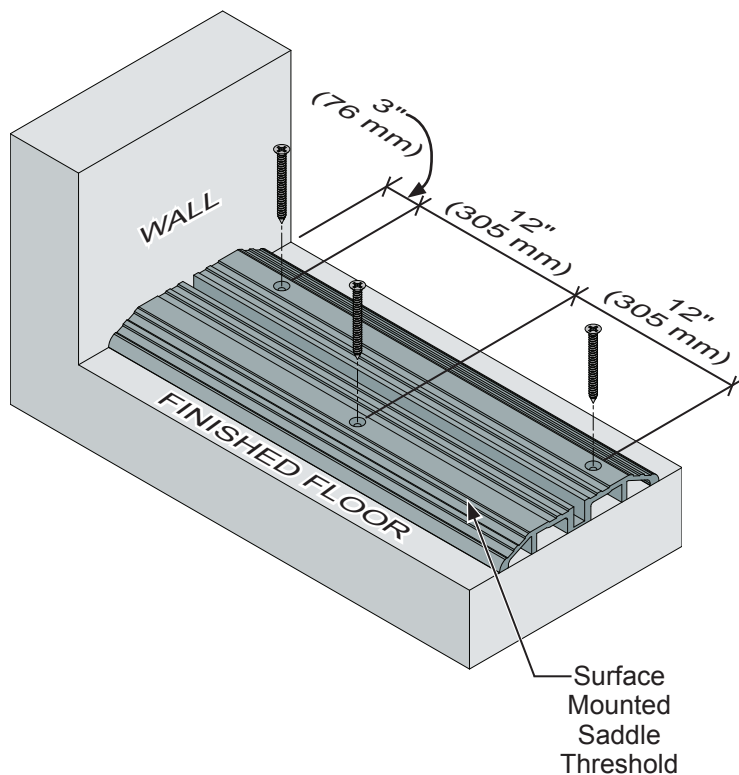

**FIG. 5**
2. The Bottom Pivot is installed into the finished floor 2-3/4" (70 mm) from the wall and on the centerline of the Guide Channel. **(FIG. 5)**